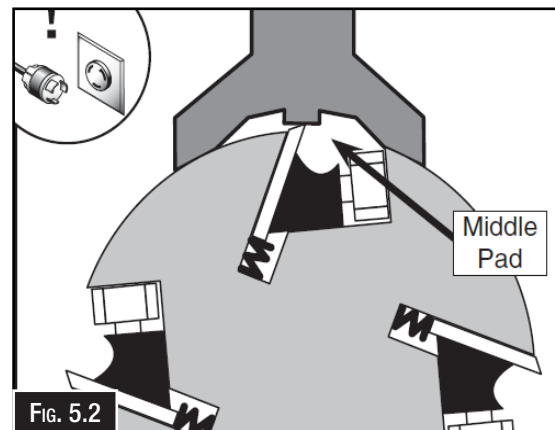

Fig. 5.2
5. a) To use the adjustment springs to set the knife height: Push the knife down with the gauge so that the edge of the knife is touching the center reference pads on the gauge. Hold the gauge down and tighten the bolts to secure the knife in place. Repeat for the 2 other knives. (Fig 5.2)